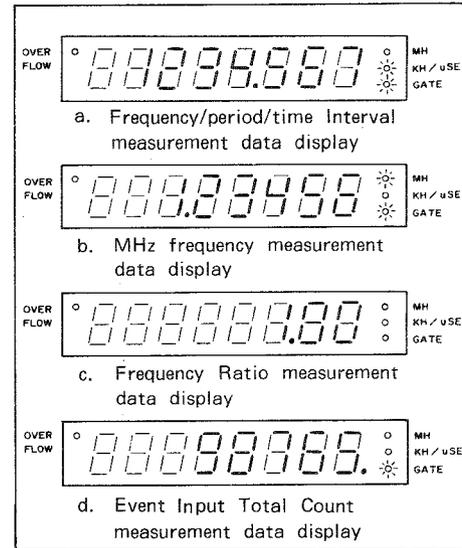

Figure 4. Various display examples
Figure 4 shows the display examples.
Figure 4 a indicates the value of "1234.567" with kHz/ μ s LED ③ active. This means that the counter is now measuring the frequency, period, or time interval selected by FUNC switch ⑱. If it is assumed that a frequency is being measured, the display resolution value is 0.001kHz, that is 1Hz. This means that the gate time (display resolution) has been set to 100/1.0s.
With those functional parameters left unchanged, use the display unit select switch to select the MHz/ms mode. The display value will change to the one as shown in Figure 4 b. This means that the same frequency is still being measured but the measurement value is now displayed in MHz. In other words, the display resolution value has not been changed with GATE switch ⑲ but the display resolution value has changed from 1Hz (0.001kHz) to 10Hz (0.00001MHz). If Figure 4 a shows that a period or time interval is being measured and the MHz/ms
Figure 4 c shows that the same signal is input to the CHANNELs A and B input jacks and that the frequency ratio between the two signals is measured during the same gate time of Figure 4 a and b. In this case, the two display unit indication LEDs become inactive because the frequency ratio is output to the Display.
Figure 4 d shows the typical event total count example. The output value is displayed in integer (no data following the decimal point is displayed) because the event total count requires no display unit.